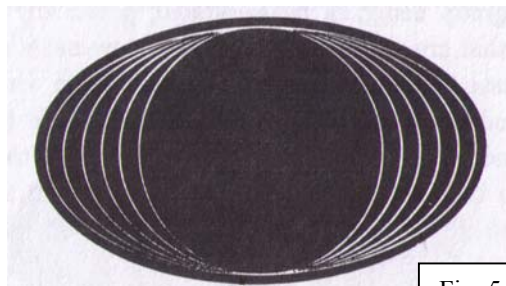

Fig. 5.
4. Graduated ellipses may be formed by successive changes to the off-set of the cam-ring whilst maintaining the slide-rest at a constant eccentricity. Each cut will then pass through a fixed minor axis although the major axes will vary (see Fig.5). This can be used for graduated ornamentation; e.g. on a handle where one end is to be circular in section and the other elliptical.